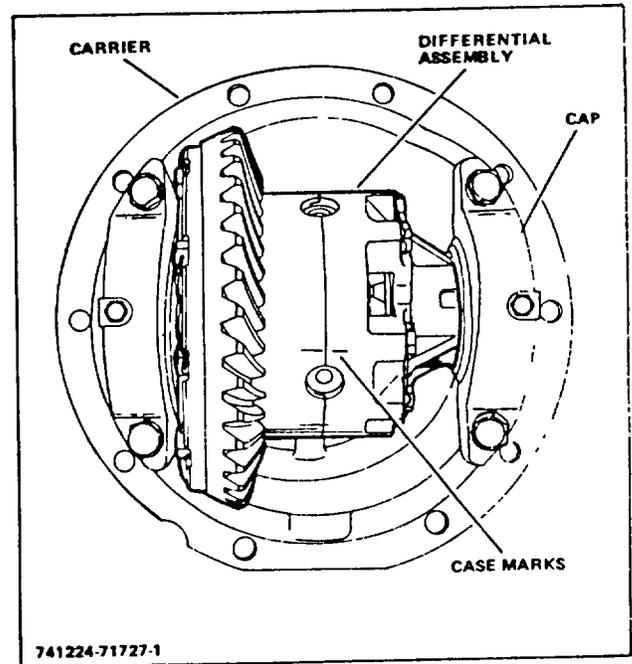

Figure 3-1. Differential Carrier Assembly - Front View
12. Mark differential case halves (Fig 3-1), bearing caps, and differential housing. Then remove bolts, washers, and adjusting nut locks; remove place bolts and bearing caps from differential carrier.
- b. Remove capscrews holding case halves together. Note aligning marks on case halves (Fig 3-1).